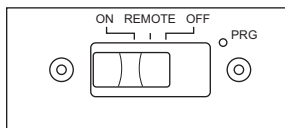

Figure 38 - Remote Selector Switch in ON Position
10. Wait one minute and switch selector switch to the ON position to light burners (see Figure 38). When using in the ON position (without remote) burners will light on high. There is no adjustment to the flames without using remote.